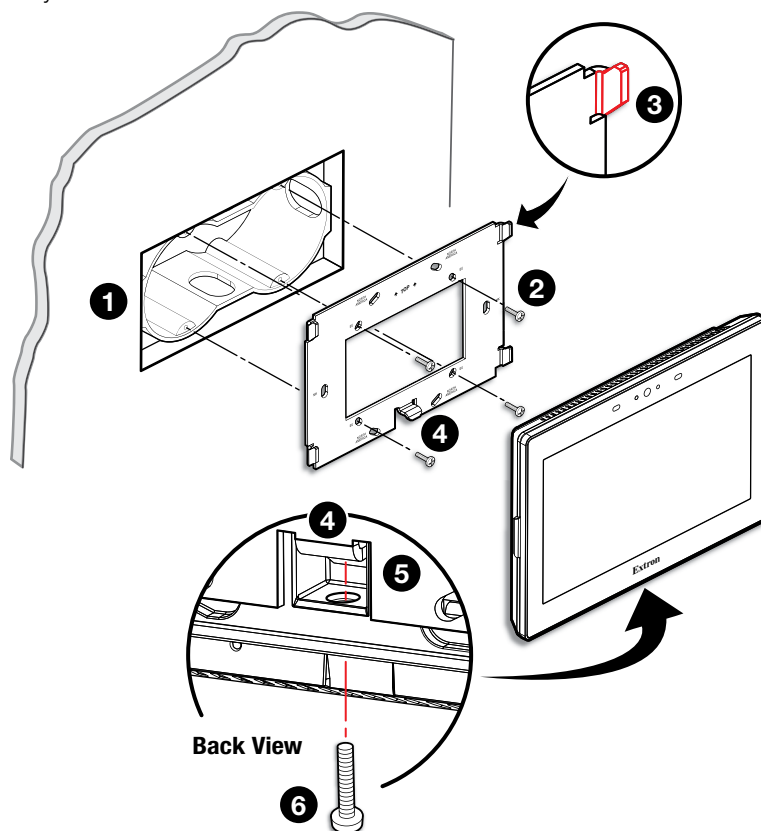

Figure 32. Mounting the TLC Pro 726M to a Wall Box
- The TLC Pro 526M has its own mounting plate (see figure 32, top).
- The TLC Pro 726M and 1026M control systems mount to a 2-gang junction box and both use the same mounting plate (see figure 32, bottom).
Figure 32 shows how to mount the TLC Pro 726M. Mounting the TLC Pro 526M or 1026M is very similar.
3. Cut a hole in the wall or furniture (see figure 32, ❶, on the previous page).